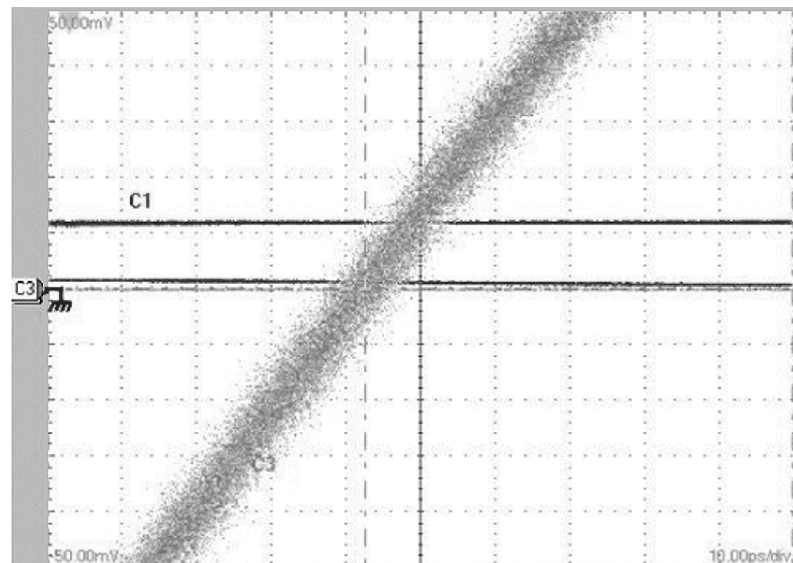

Figure 37: Display example (zoomed in at the crossing point)
- b. Zoom into the 50% crossing point of the first rising edge on the C3 clock signal until the Horizontal SCALE is **10 ps/div** and the Vertical SCALE is **10 mV/div**. (See Figure 37.)